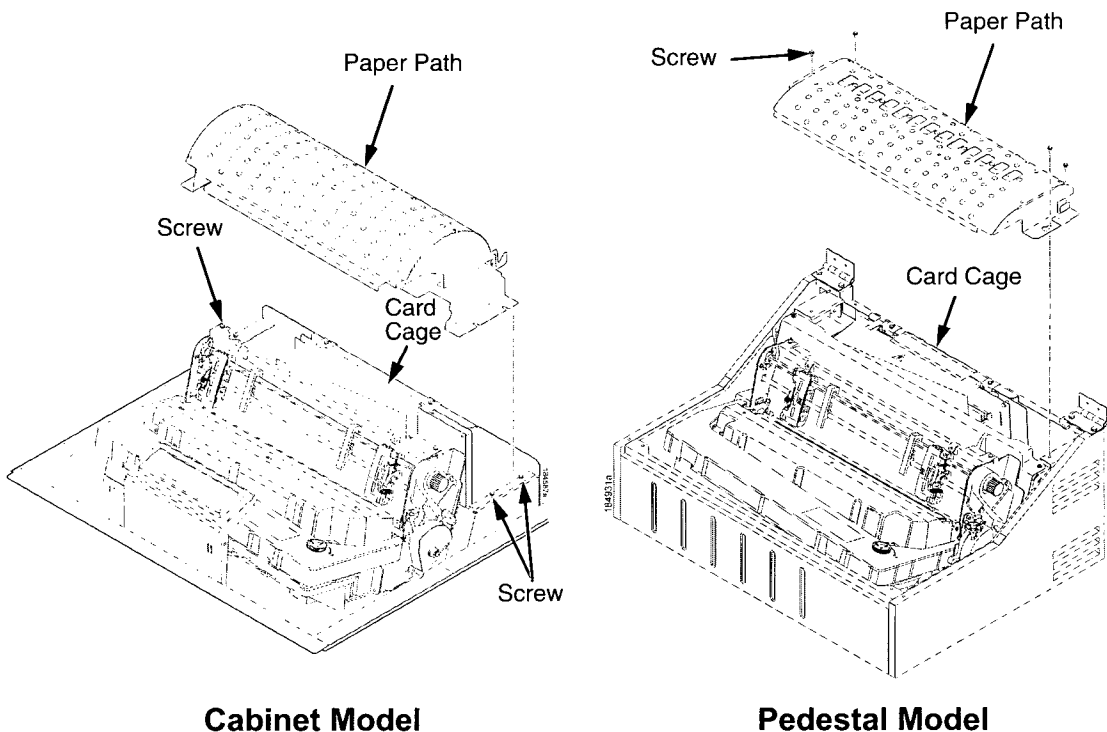

Figure 40. The Paper Path
2. Loosen—do not remove—the screws that secure the paper path to the card cage. (See Figure 40.)
1. Position the paper path offset slightly on the card cage with the keyway cutouts over the three loosened screws. (See Figure 40.)
3. Tighten the screws securing the paper path to the card cage. (See Figure 40)